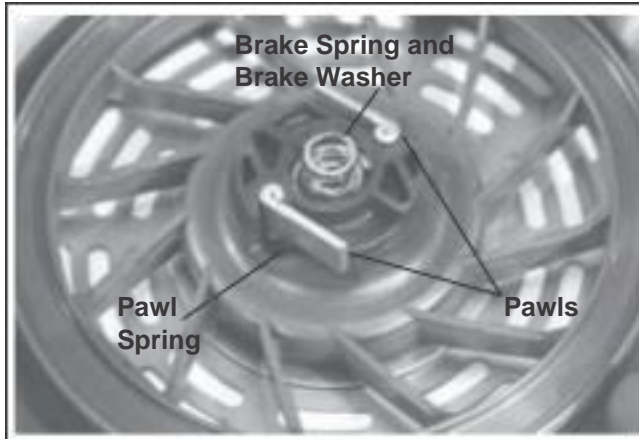

Figure 7-6. Brake Spring and Washer, Pawls, and Pawl Springs.
3. Remove the brake spring and brake washer. See Figure 7-6.
6. Lubricate the brake spring sparingly with grease. Place the spring on the plain washer. (Make sure the threads in center shaft remain clean, dry, and free of grease and oil.) See Figure 7-6.